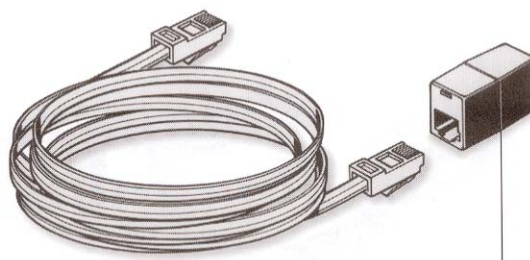

Figure 10. Terminal connector
3. Connect the other end of the terminal connector to the extension loom (See Figure 10)